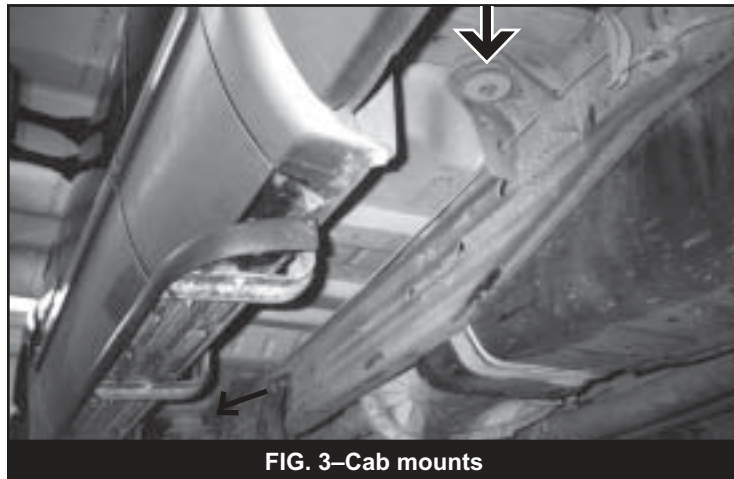

FIG. 3—Cab mounts
9. Check under the cab to see if there are body mounts located behind the front seat. Some models will have mounts behind the front seat in addition to those at the rear of the cab and some won't. Figure 3 shows a cab without mounts behind the front seat.